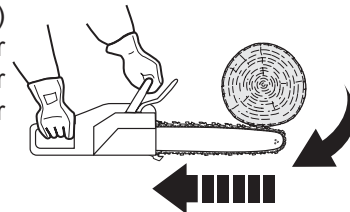

Fig. 39
- > Pinching of the saw chain (3) along the top of the guide bar (4) may push the guide bar rapidly back toward the operator (Fig. 39).